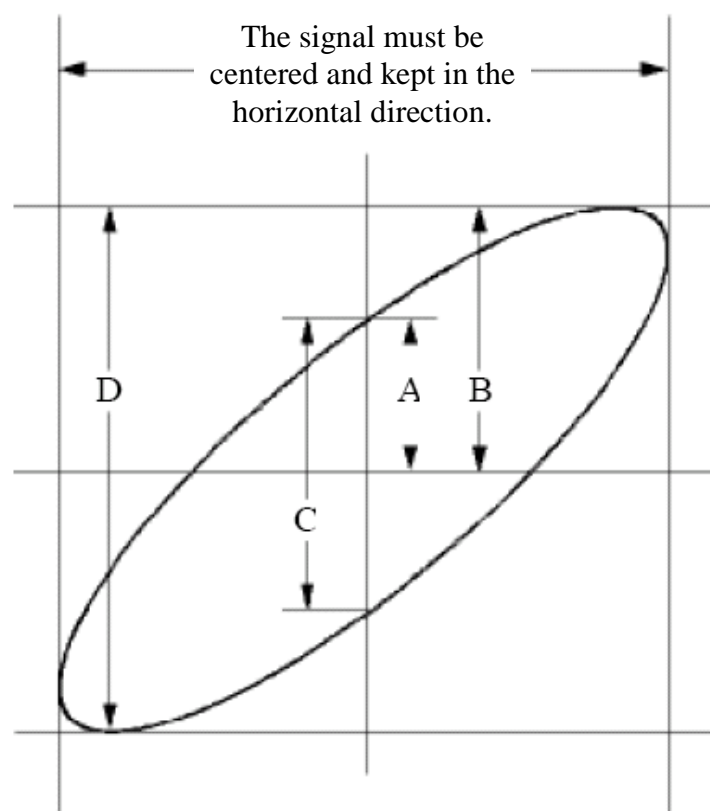

Figure 8-6 Lissajous Graph
- (3) Push the CH1 and CH2 button to turn on CH1 and CH2.
- (4) Push the **Autoset** button, with the oscilloscope turning on the signals of the two channels and displaying them in the screen.
- (5) Push **CH1** button to select CH1, turn the lower knob, and then push **CH2** button to select CH2, turn the lower knob, making the amplitudes of two signals equal in the rough.
- (6) Click  to call up the menu panel. Click the **XY** softkey on panel to switch to the **ON** state. The oscilloscope will display the input and terminal characteristics of the network in the Lissajous graph form.
- (7) Turn the upper and lower knobs, optimizing the waveform.
- (8) With the elliptical oscillogram method adopted, observe and calculate the phase difference (see *Figure 8-6*).